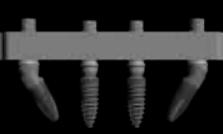

Fig 1: All implants are placed using a surgical guide (left). The two newly designed implants are placed in a 30 degree angle to the distal (right).
- Fig 1: Two centrally placed axillary implants. Fig 2: The special patented macro-which are supported by two tilted implants and micro design allows an even (25 – 35 degree to the distal) and very effective distribution of restoration on only 4 implants.